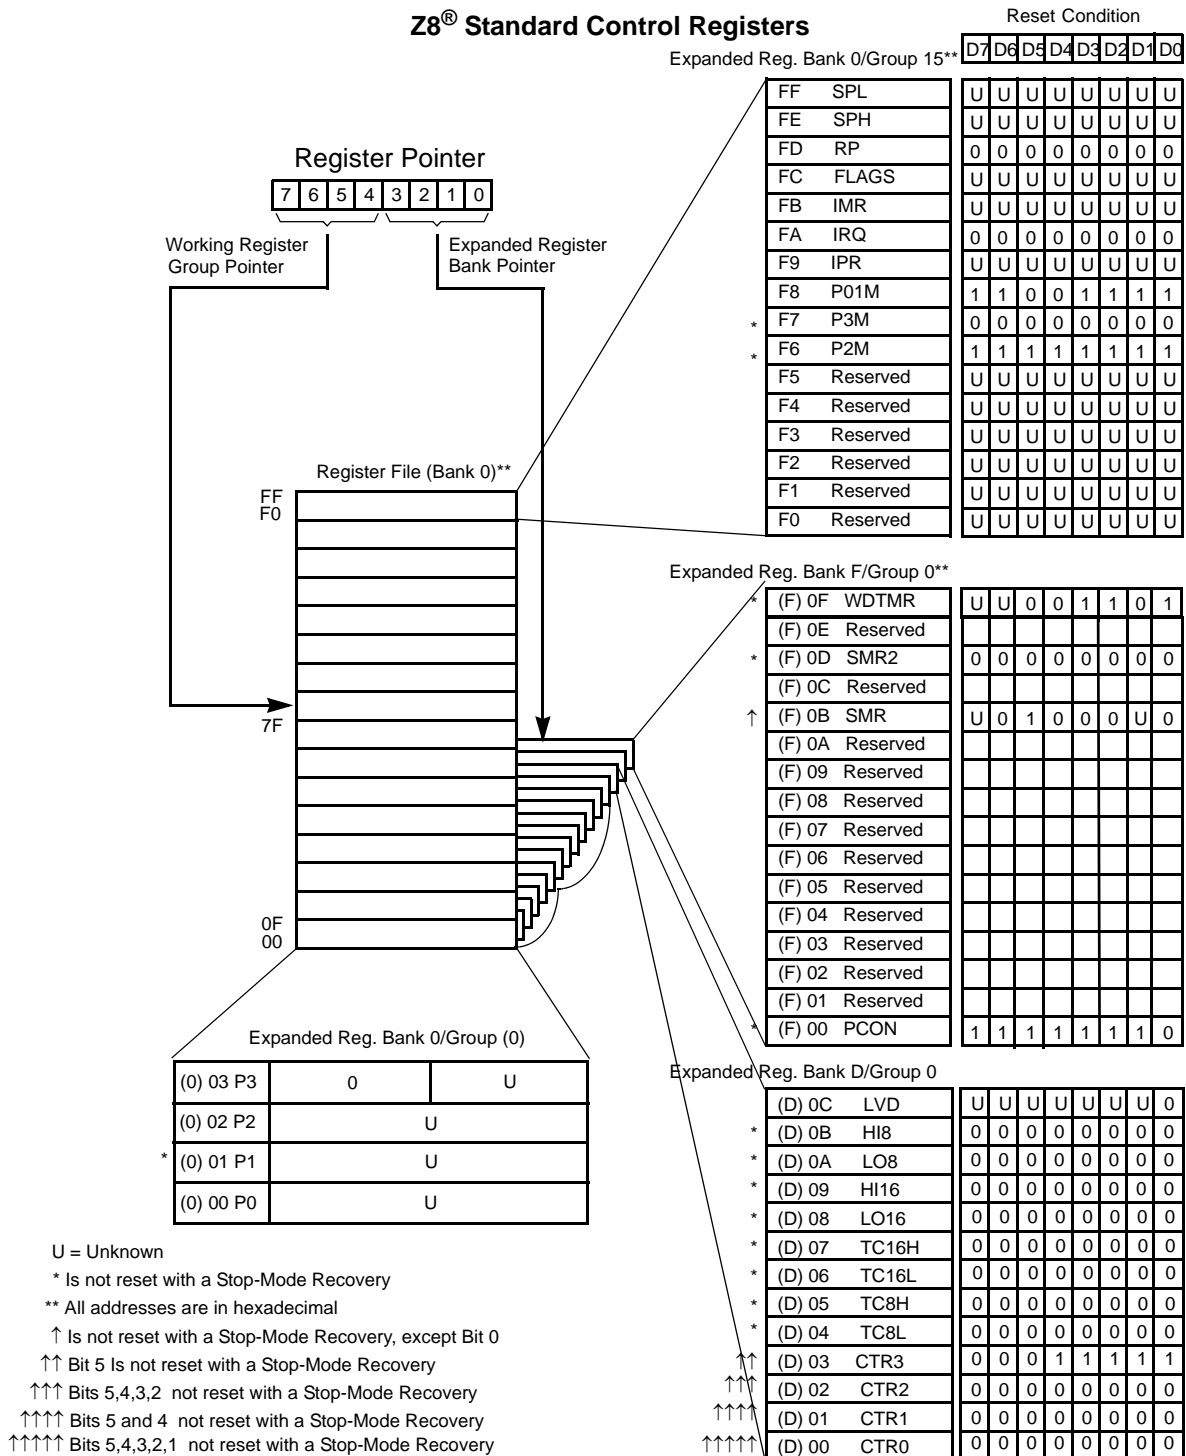

Figure 15. Expanded Register File Architecture
- **Note:** An expanded register bank is also referred to as an expanded register group (see Figure 15).
Example: Z8 GP: (See Figure 15 on page 26)